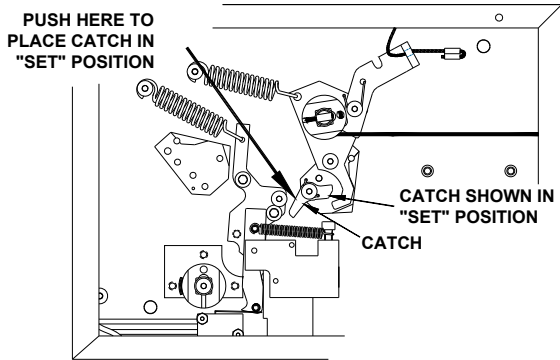

Figure 4-43
2. Make sure the Catch is in the “set” position. See **Figure 4-43**.